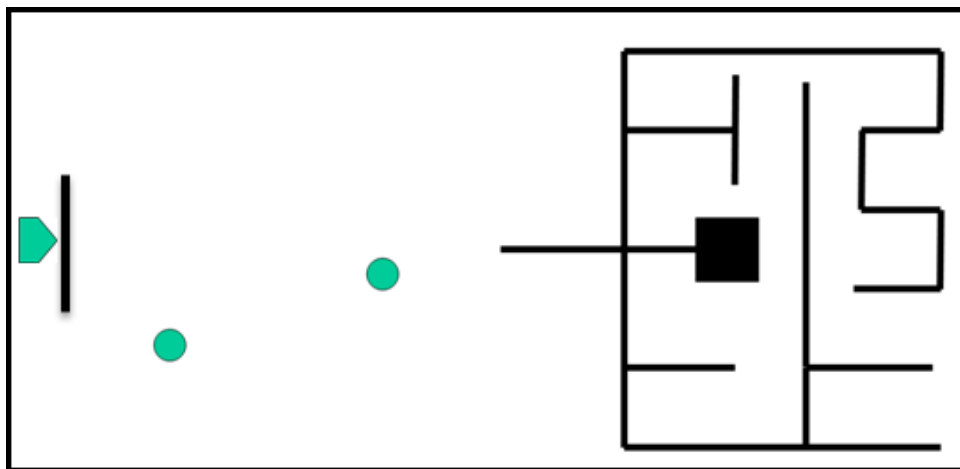

Figure 11: Maze robot
- (a) Draw the path of the robot from the start vector to the start of the maze in Fig. 11. [5]
- (b) Draw the path of the robot in the maze using either the 'left-hand' or 'right-hand' rule in Fig. 11. [5]